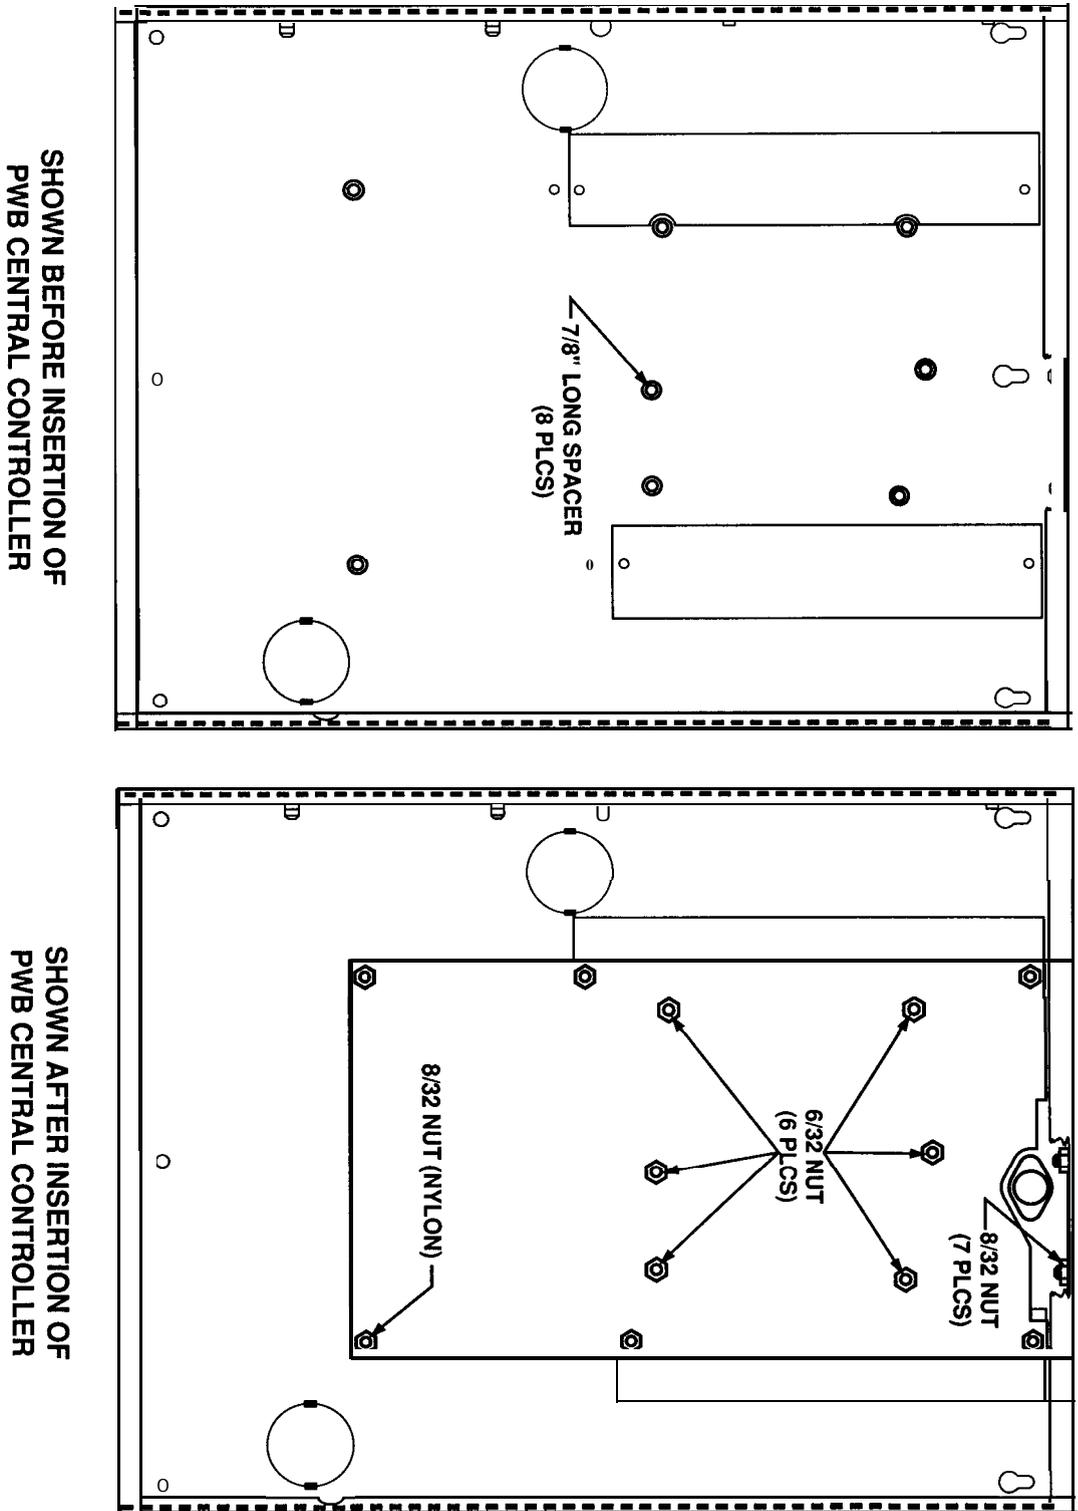

Figure 2-7 Mounting the PWB Central Controller
1. Place the 7/8" long spacers on the studs as shown in Figure 2-7. If neither of the expansion strips is used, you will install all 8 spacers; if you use the keypad expansion strip don't use the lower left spacer, if you use the ADCOM (adjunct communicator) don't use the lower right spacer.
4. Install seven 8-32 nuts at the edges of the board and on the heat sink, and the *plastic* nut on the lower right corner of the board. Install six 6-32 nuts in the central area of the board as shown in Figure 2-7.